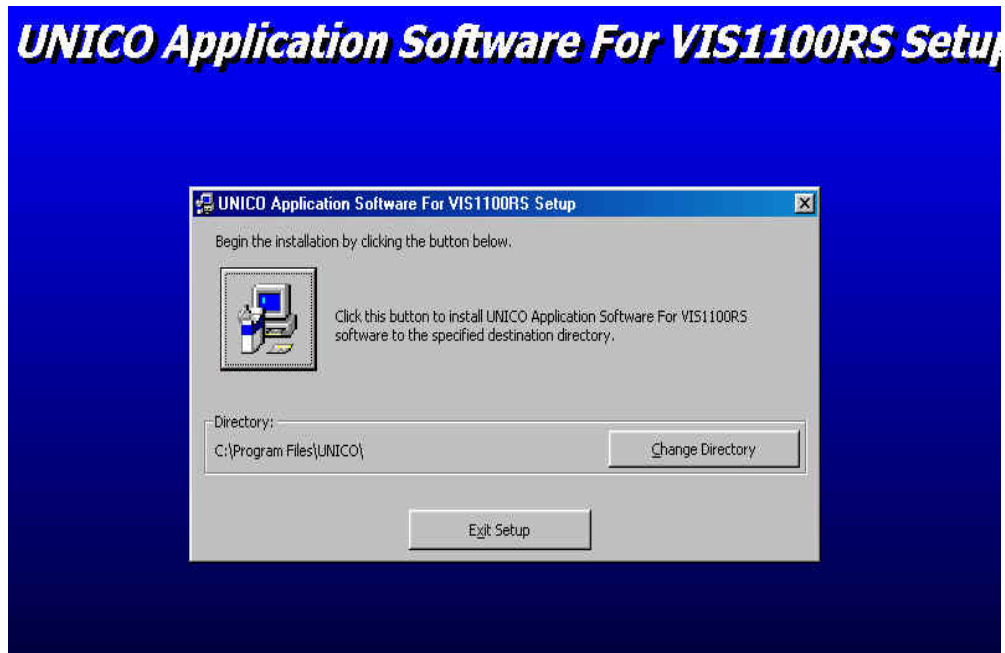
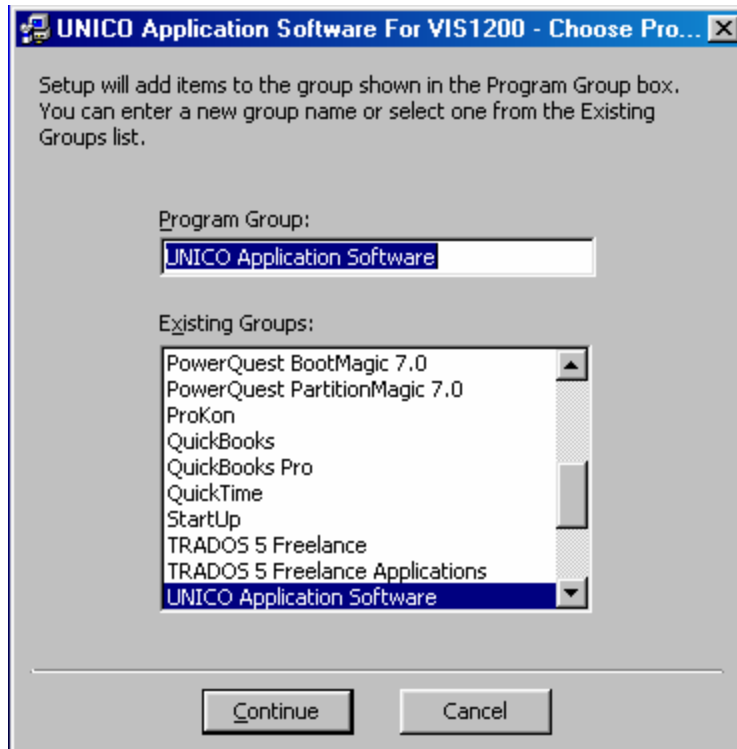

Figure-6 File Setup Directory Selection I
Figure-7 File Setup Directory Selection II
- Step 6: Choose the **Directory** and **Program Group** where you want the software to be installed as shown in Figure-6 and Figure-7. The **File Setup Directory 1** (Figure-6) will then appear. If the File Path selection is OK, then go to **Step 7**.